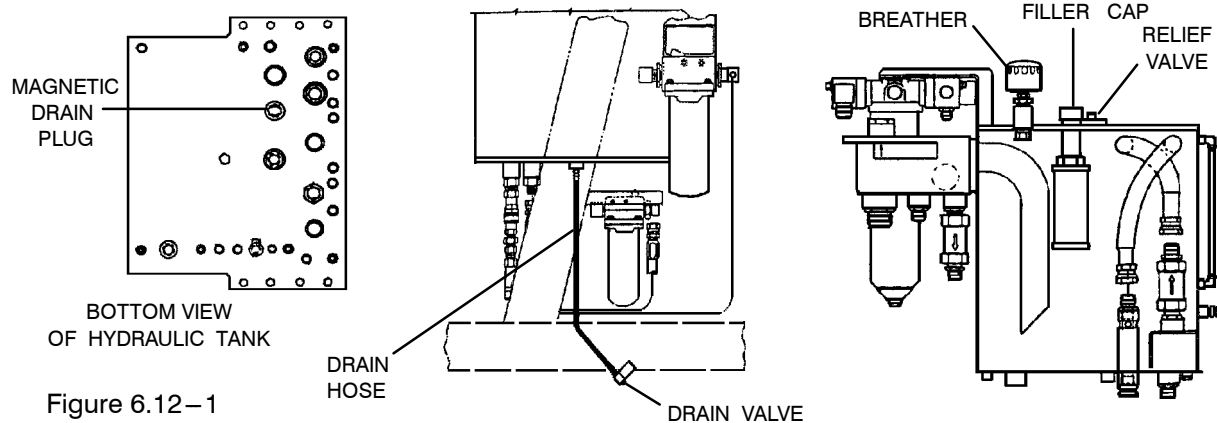

Figure 6.12-1
3. Removing drain plug and attach a length of hose to facilitate draining the oil into containers (See Figure 6.12-1).